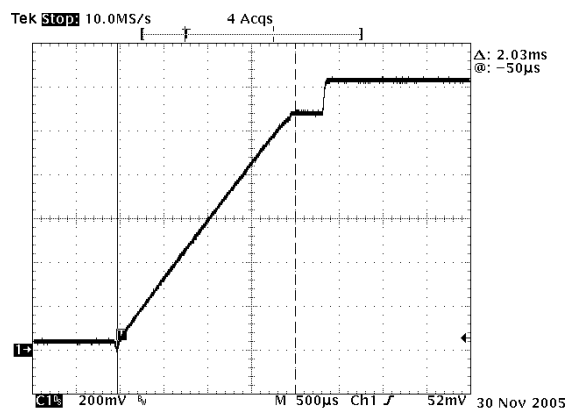

Figure 28. VR11 Startup
The controller supports two different startup routines. An AMD ramp to the initial VID code, or a VR11 Ramp to the 1.1 V VID code, with a pause to capture the VID code then resume ramping to target value based on an internal slew rate limit. See Figures 28 and 29. The controller is designed to regulate to the voltage on the SS pin until it reaches the internal DAC voltage. The soft-start cap sets the initial ramp rate using a typical 5.0 μ A current. The typical value to use for the soft-start cap (SS), is typically set to 0.01 μ F. This results in a ramp time to 1.1 V of 2.2 ms based on Equation 1.